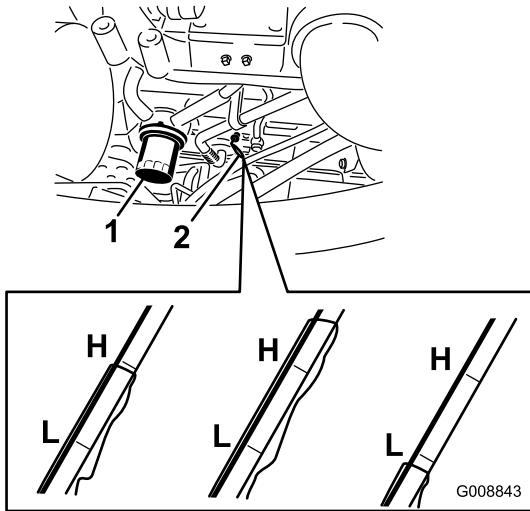

Figure 61
2. Remove the dipstick (Figure 61),, wipe it clean, install the dipstick into the tube, and pull it out again. The oil level should be up to the Full mark.
2. Remove the oil filter (Figure 61). Apply a light coat of clean oil to the new filter seal before screwing it on. **Do not overtighten.**